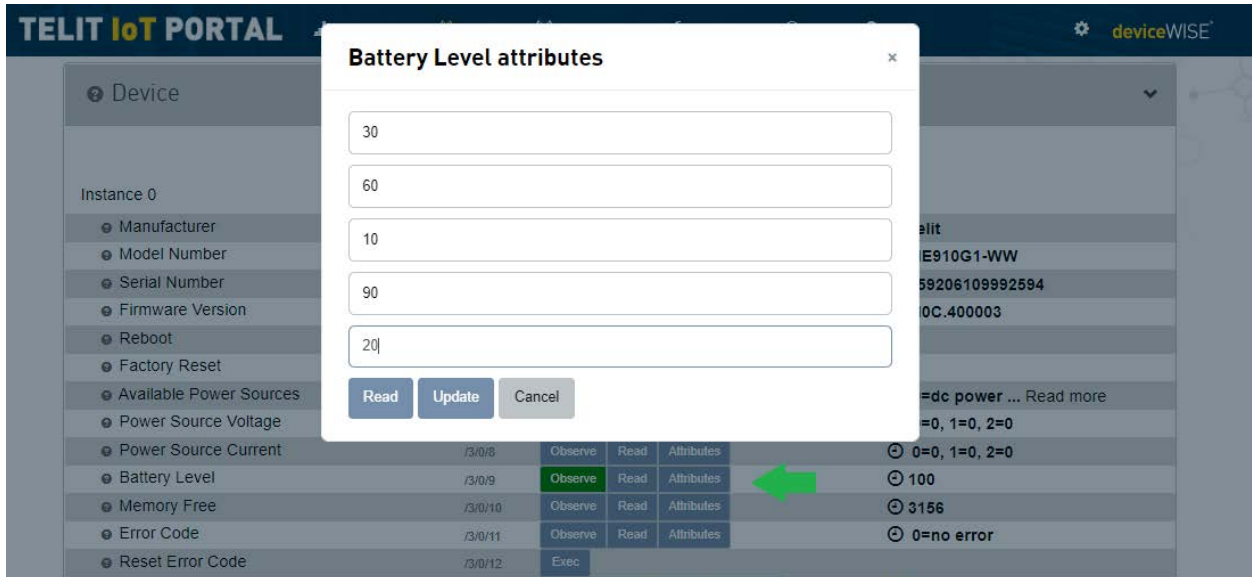

Figure 30: "write attributes" button and popup on OneEdge IoT portal.
Using an observation at **resource level**, when the observed resource changes, the LwM2M client sends a notify to the server with **only the value of the observed resource** in the payload (refer to the first part of the Figure 30 below).
By the way, the best **advantage** in case of observation on instance level is that multiple resources can be set all together through **AT#LWM2MOBJSET** command and this causes the sending of one unique notify with all the resource values in the payload instead of sending multiple messages (refer to the third part of the Figure 30 below): this is the most optimized way to save data and power consumption in sending data.
As showed in the second part of the Figure 30 below, the setting of a single resource is still possible in case of observation at instance level, but not convenient if the single resources are set in short time.
Related to the discussion and the Figure 30 above, the following general guidelines are suggested:
- The suggested strategy is the **observation at instance level** and set the sensor data at instance level through **AT#LWM2MOBJSET** (third part of the Figure 30)
- The suggested strategy is the **observation at resource level** and set the alarm info at resource level through **AT#LWM2MSET** (first part of the Figure 30)
- The suggested strategy is putting the alarm info and all the sensors in the same object instance, set the **observation at instance level** and then send all of them through **AT#LWM2MOBJSET** command that will send one unique notify (third part of the Figure 30)